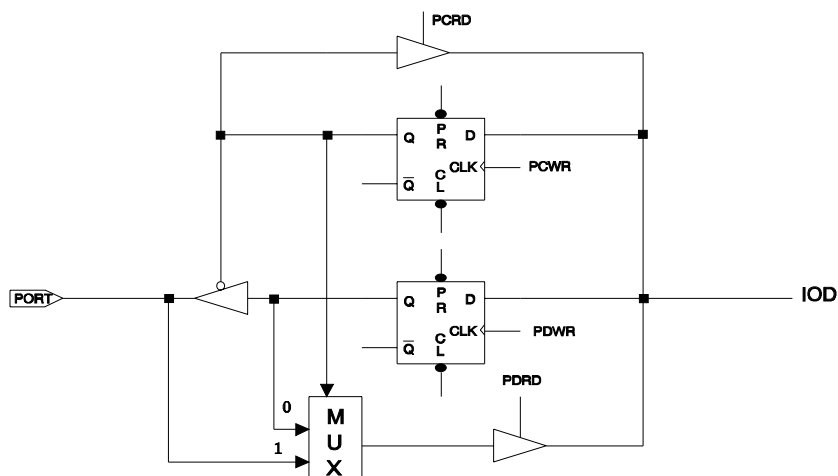

Fig.10 The circuit of I/O port and I/O control register
- Fig. 10 depicts the circuit diagram of TCC/WDT.